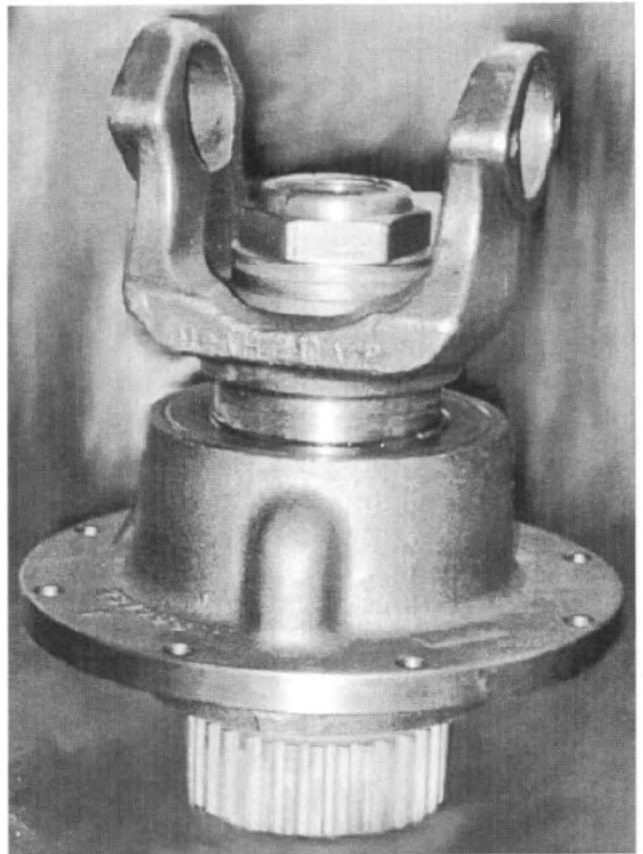

Fig. 56
10. Reinstall the yoke and locknut, torquing the locknut to the specified limit. See Fig. 56.